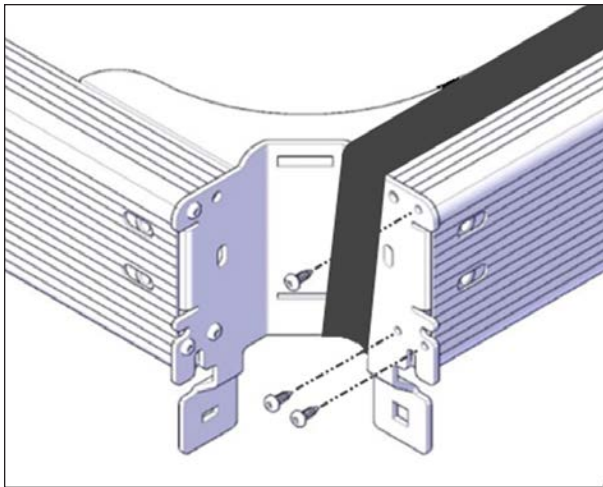

**FIGURE 43: FOAM PANEL STRAPPING ON CORNERS**
8. Use the 50 ft. (15 m) ratchet straps to properly lock the foam panels in place. It will help you to install the final components of the cover see Figure 43.